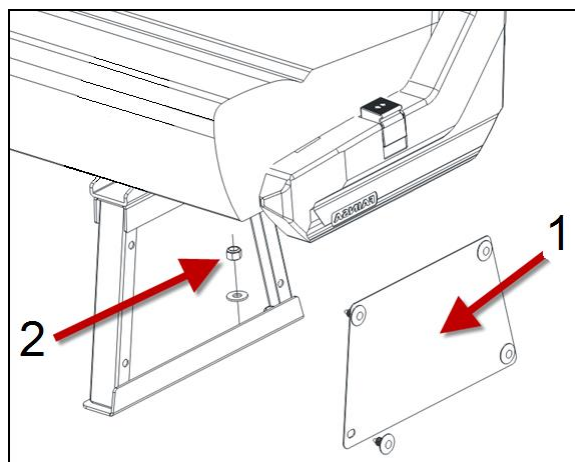

FIGURE 27
39. Install nuts (3) that fix the seat pedestal to the floor track (item 2, Figure 27).
43. Install seat pedestal cover (item 1, Figure 27). This panel is retained by four (4) plastic retainers snapped in place to hold the panel. Use new retainers.